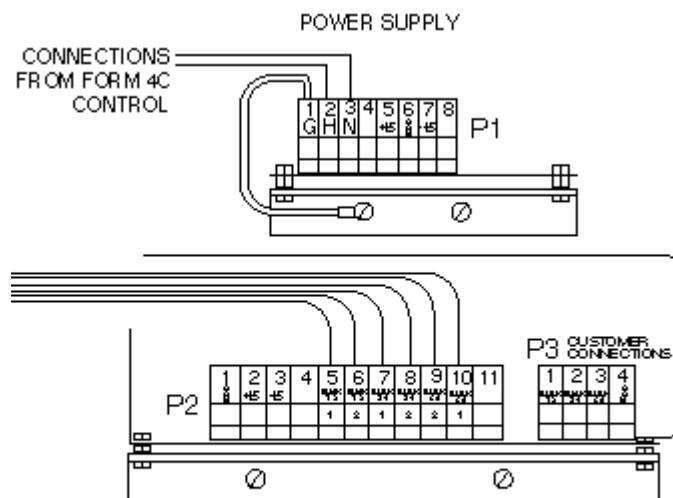

Figure 4.
The customer connections (Figure 4) are located on the accessory amplifier circuit board and are identified as the P3-1 through P3-4 terminals. Always use shielded cable for wires entering or exiting from the control cabinet.
If the unit is in service, by-pass and trip the recloser. For by-pass procedure, refer to *Service Information S280-77-1 Form 4C Microprocessor-Based Recloser Control Installation and Operation Instructions*. Use the following procedures to confirm the operation of the accessory. Refer to Figures 4, 5 and 6.
1. Verify that power is present at the power supply board (see Figures 4 and 6). Check voltage across terminals P1-2 and P1-3. Voltage should be either 120Vac or 240Vac, depending on configuration of accessory.
3. Apply test current and measure output at terminals P3-1, 2, 3, and 4 (see Figure 4). For example: